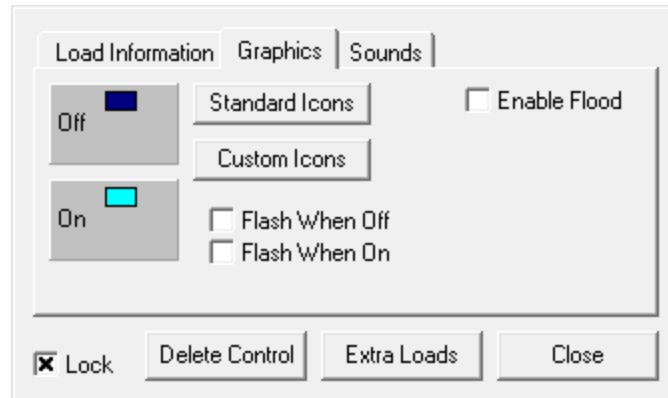

Figure 2.4
7. Select the Graphics tab as shown in figure 2.4 to start defining the icon appearance.